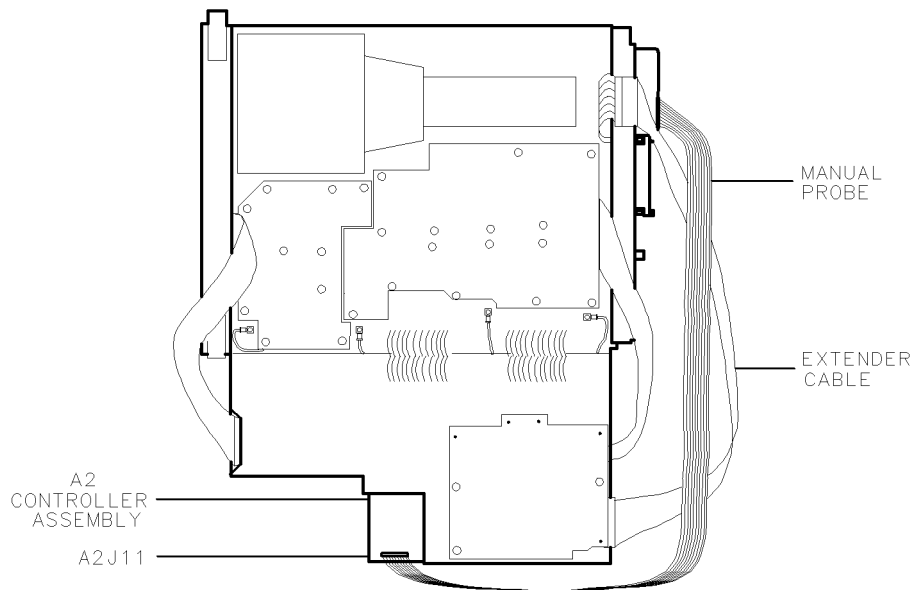

Figure 7-1. Connecting the Manual Probe to the Spectrum Analyzer
1. See Figure 7-1. Connect the manual probe cable to A2J11 on the A2 Controller assembly of the analyzer.